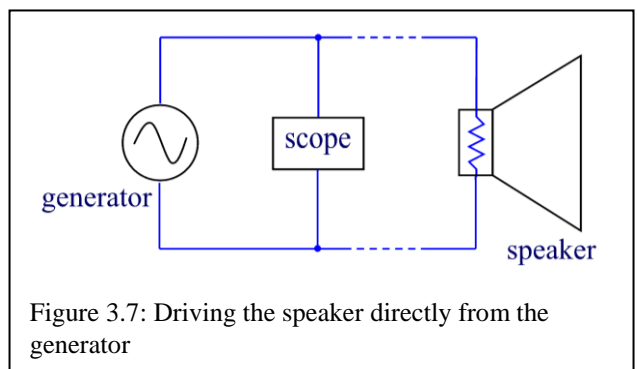

Figure 3.7: Driving the speaker directly from the generator
- Connect the generator and the scope to your speaker wires (see Figure 3.7)